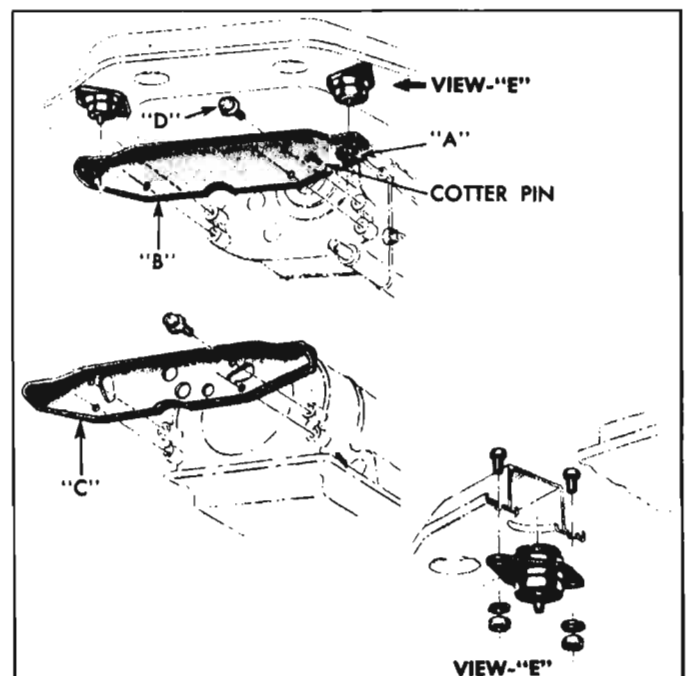

Fig. 6A-17—Engine Front Mounts
- Remove cotter pin and castellated nut "A" from each engine mount (fig. 6A-17).